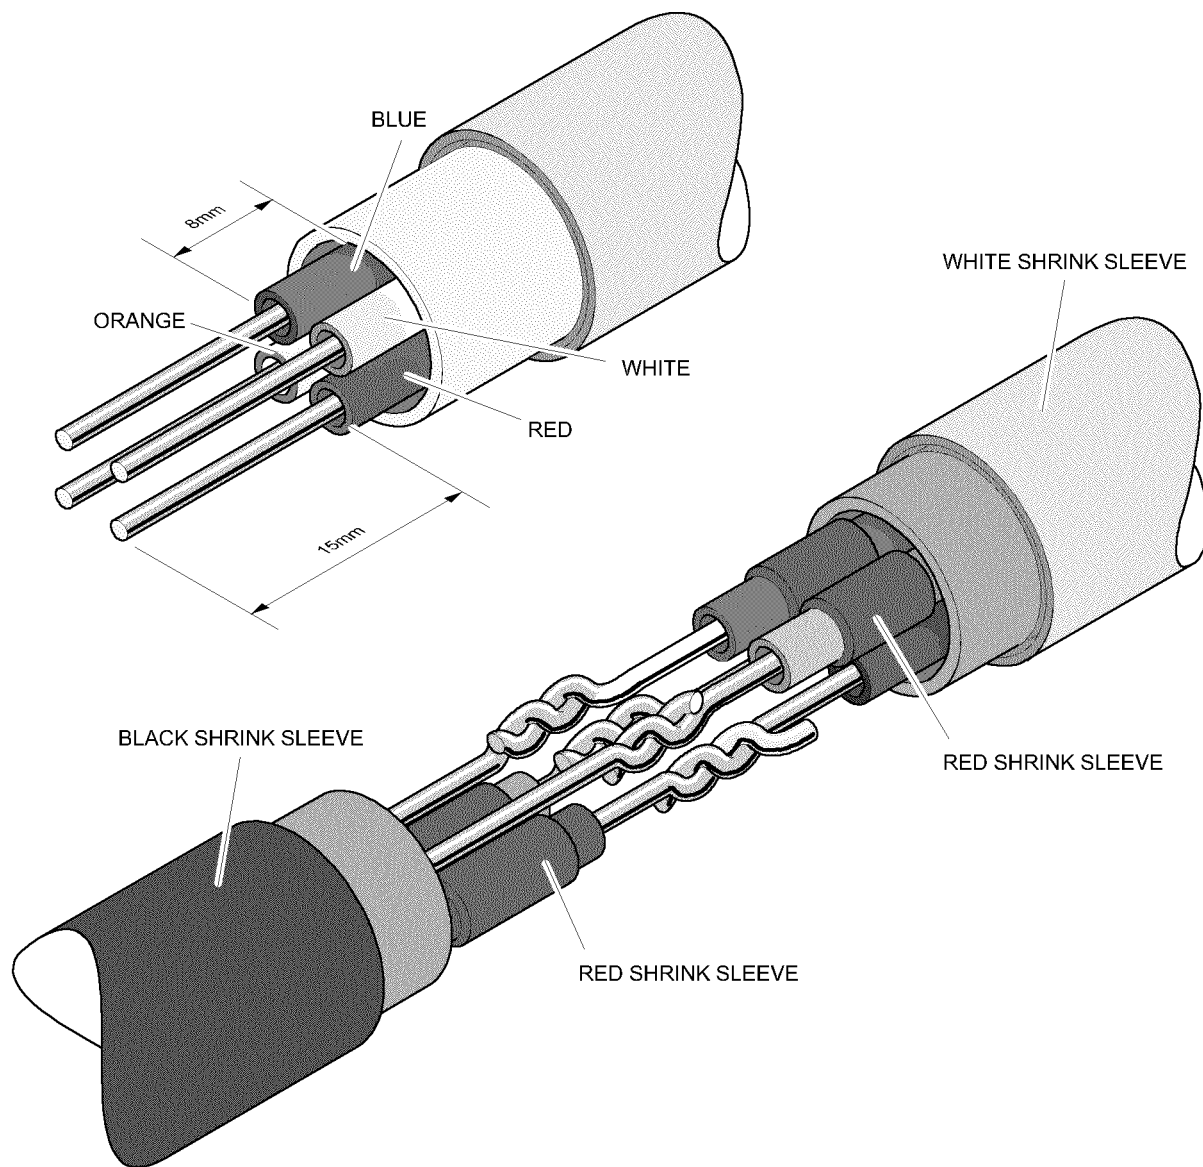

Fig. 7-14
6. Slide RED shrink sleeve over the ORANGE and WHITE cores of one of the cables and the BLUE and RED cores of the other cable, as shown in Fig. 7-14.